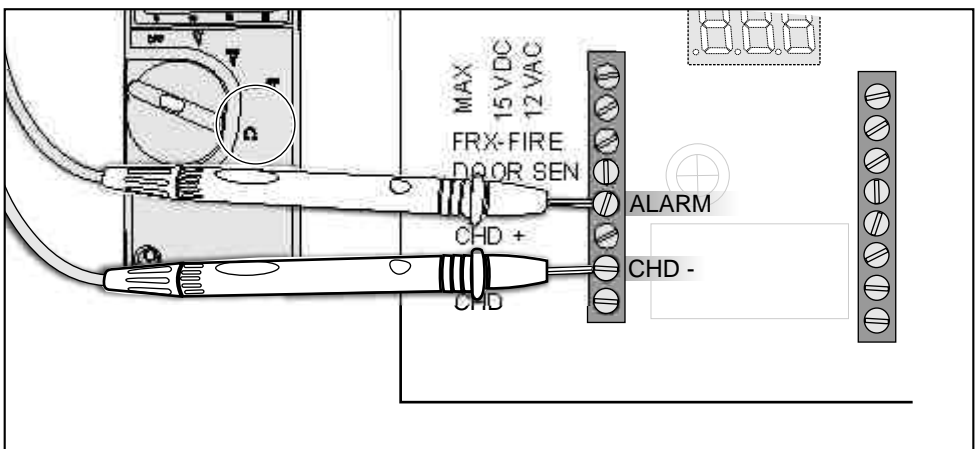

Figure 7 Multimeter connected to ALARM & CHD-
1. Connect the multimeter to ALARM AND CHD- as indicated in figure 7.